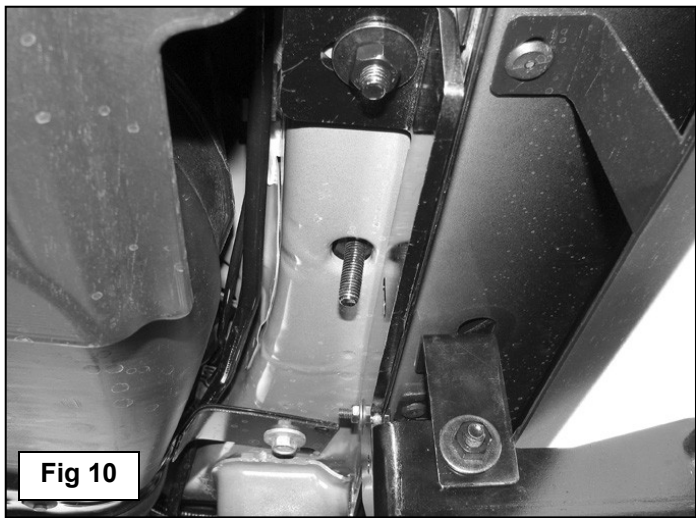
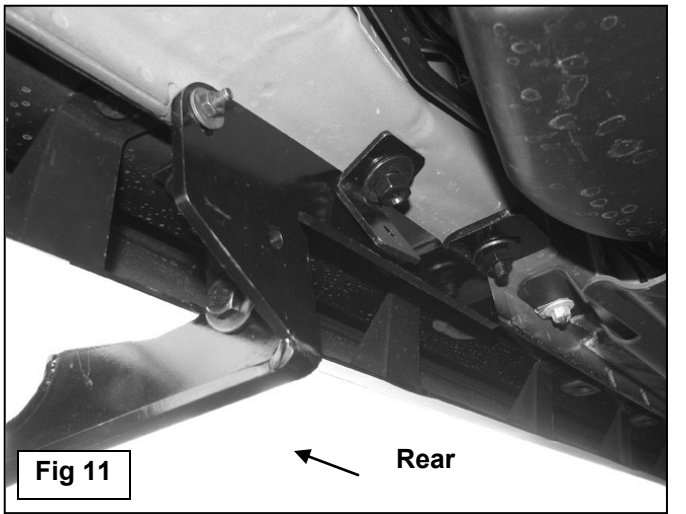
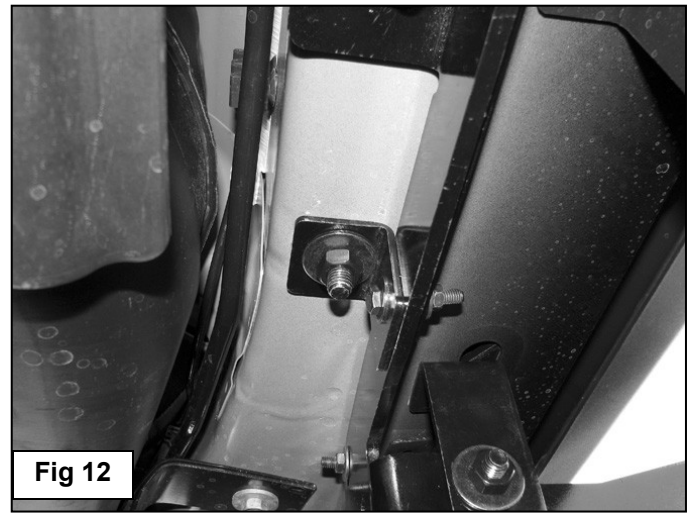

Fig 10
Fig 11
Fig 12
Nut, (Figure 10). Line up the hole in the Outer Support Bracket with the hole in the Mounting Bracket. Bolt the Brackets together with (1) M10 x 30mm Hex Bolt, (2) M10 Flat Washers, (1) M10 Nylon Lock Nut, (Figure 10 & 13). Note: The Outer Support Bracket will line up on the forward facing side of the Mounting Bracket. Do not tighten hardware at this time.
7. Locate the oval hole behind the midpoint of the Bracket. Insert (1) M10 Large Bolt Plate into the hole and rotate 90-degrees to the oval hole as described in Step 4, (Figure 10). Select the Rear Inner Support Bracket. Bolt the Support Bracket to the Bolt Plate with (1) M10 Flat Washer, (1) M10 Lock Washer and (1) M10 Hex Nut, (Figure 11). Line up the remaining hole in the Support Bracket with the hole in the middle of the Mounting Bracket. Bolt the Support Bracket to the Mounting Bracket with the longer (1) M6 x 30mm Hex Bolt, (2) M6 Flat Washers and (1) M6 Nylon Lock Nut, (Figure 12). Do not tighten hardware.